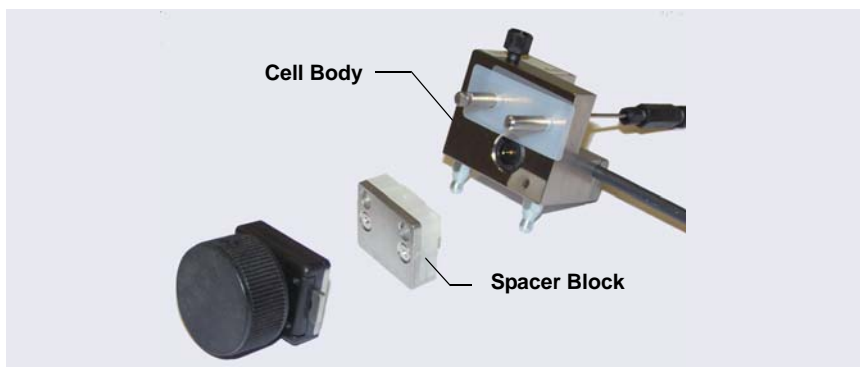

Figure B-2. *Disassembling the ED Cell*
4. Slide the spacer block off the alignment pins on the cell body (see Figure B-2). The spacer block is for use only with disposable working electrodes. If you will be installing a conventional working electrode, you can remove the spacer block and save it for possible future use.